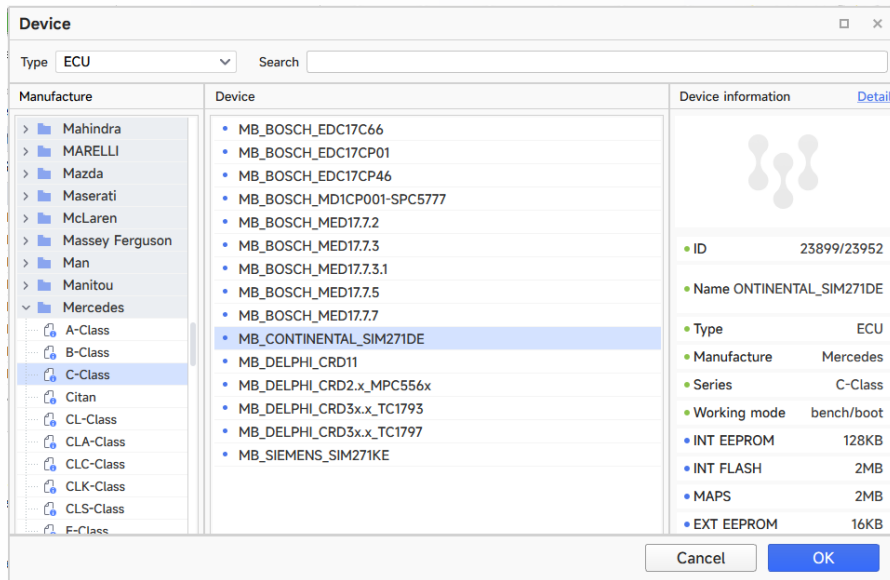

Figure 8.3.1
1. Select the module type 'ECU/Mercedes/C-class', as shown in Figure 8.3.1.